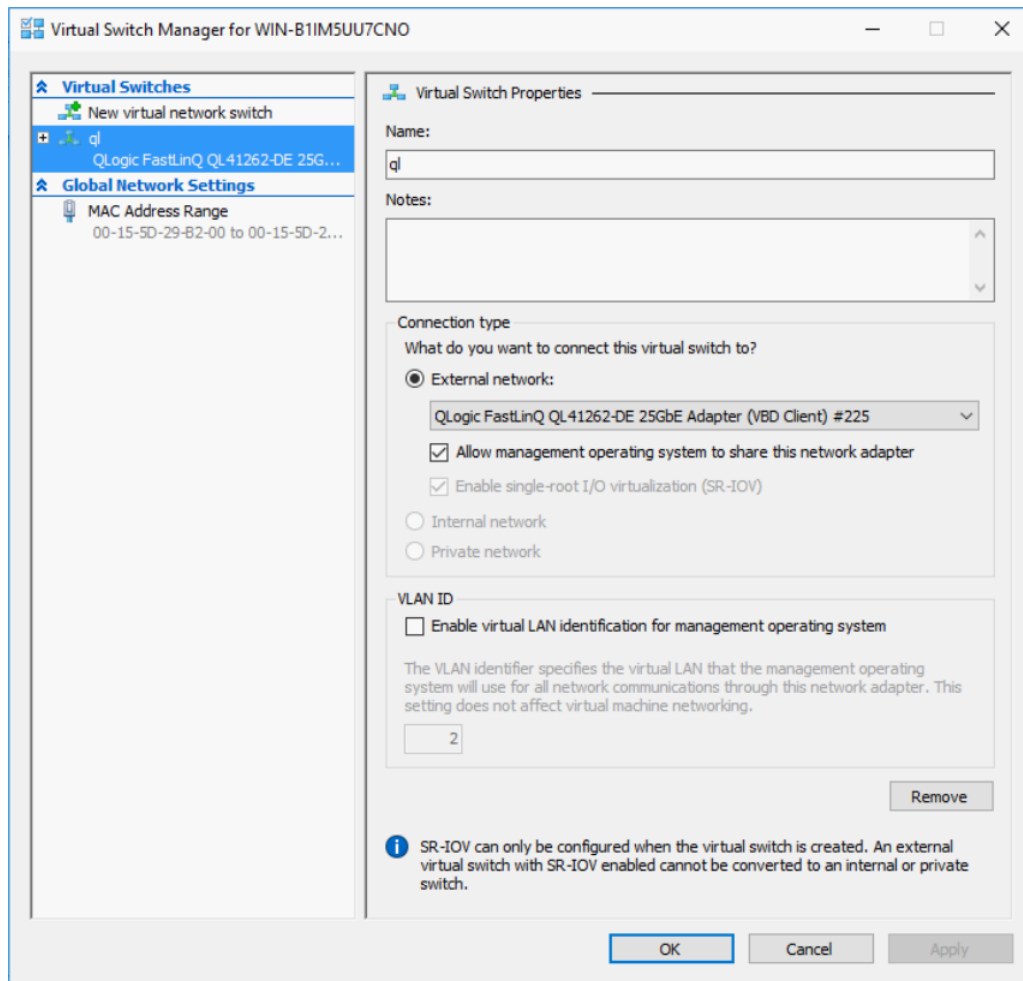

Figure 15-14. Virtual Switch Manager
2. Select **Virtual Switch Manager** (see Figure 15-14).